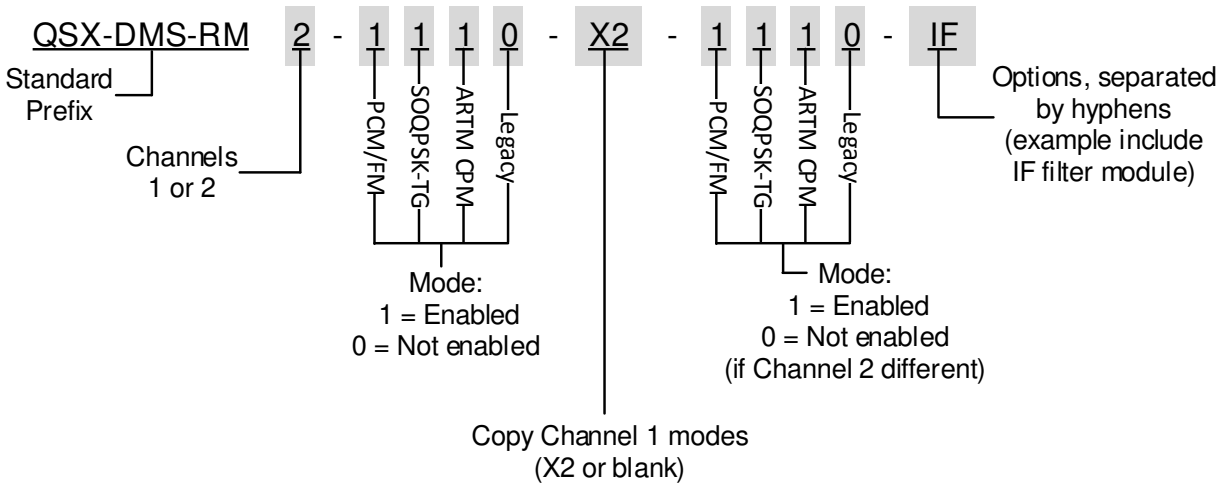

Figure 2: Rack Mount Demodulator Part Number Construction
In the standard airborne housing (AB), the DMS is designed to be mounted by four (4) 6-32 screws through the holes in the four corners, as depicted in Figure 2.